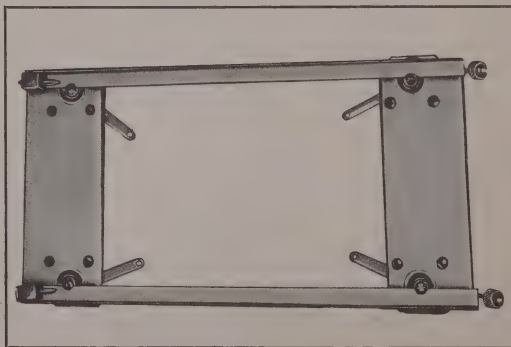

Figure 2-2. Mounting Base MT-171/U
a. Mount Panoramic Adapter AN/APA-10 on a standard Mounting Base MT-171/U and safety wire. (See fig. 2-2.) The holes for mounting are drilled as shown in figure 8-1. Mount the unit so that the ventilating louvers on this unit and associated receivers are not obstructed, and so panel controls are accessible. The knurled locking nuts on the mounting base will be towards the front of the unit. If the unit is mounted so that a ground is not obtained through the shock-mount grounding strip, a ground lead must be provided.